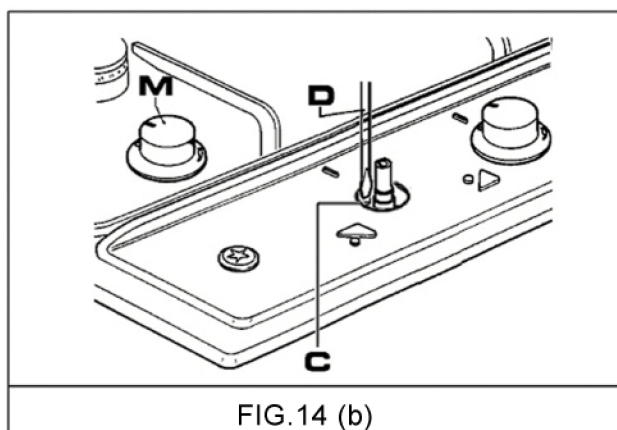

FIG.14 (b)
- Remove knob “M” (fig. 14) of the tap, which is simply pressed on to its rod.
- Insert a small screwdriver “D” into hole “C” (fig. 14) and turn the throttle screw to the right or left until the burner flame has been adequately regulated to the “Reduced rate” position.